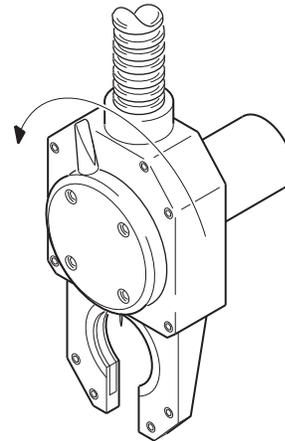

Figure 20 Releasing the Locking Lever
1. Rotate the locking lever on the weld head counter-clockwise until it stops. See Figure 20.